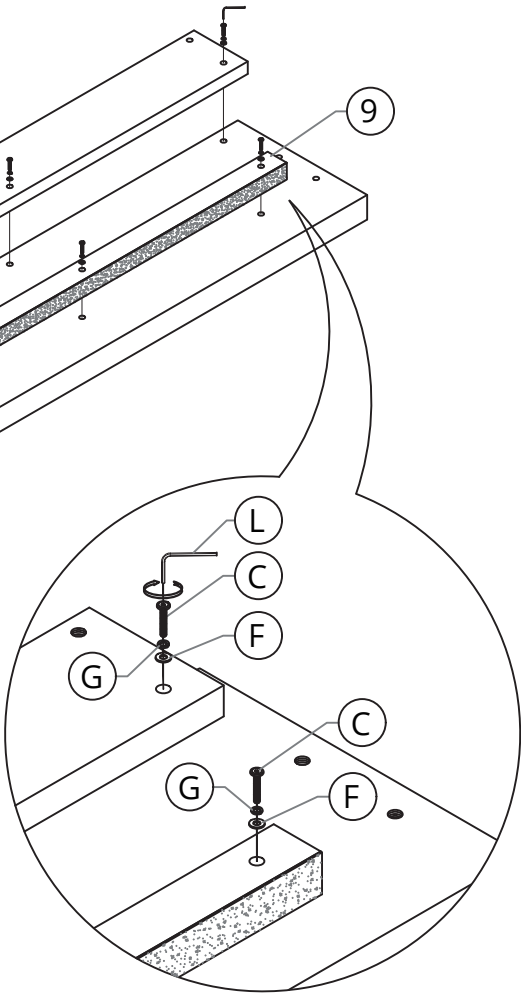

Figure 03A
Step3: Install the bottom rail of the side rail (5L/5R) and support rail-long/short (8/9) to the side rail-left/right (4L/4R) by using the screws (C), spring lock washers (G), flat washers (F) and tighten it with allen wrench (L). See Figure 03A/B.